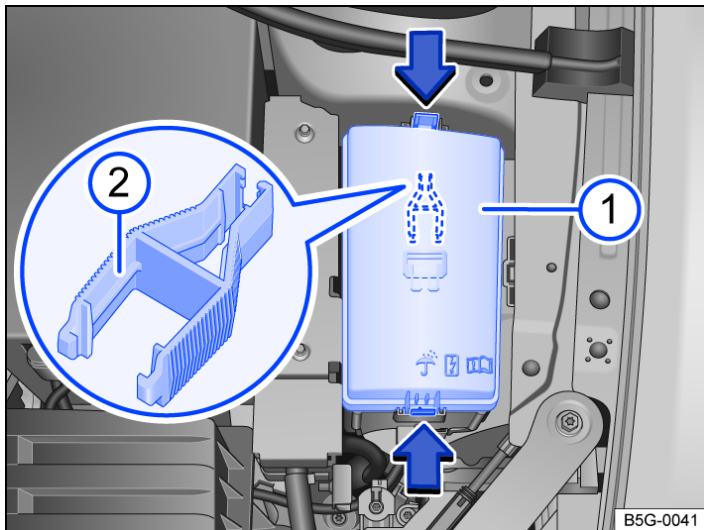

Fig. 1 In the engine compartment: cover ① of the fuse box including plastic pliers ②.
- Press the locking button in the direction of the arrow *→ Fig. 1* (arrows) in order to unlock the cover of the fuse box *→ Fig. 1* ①.